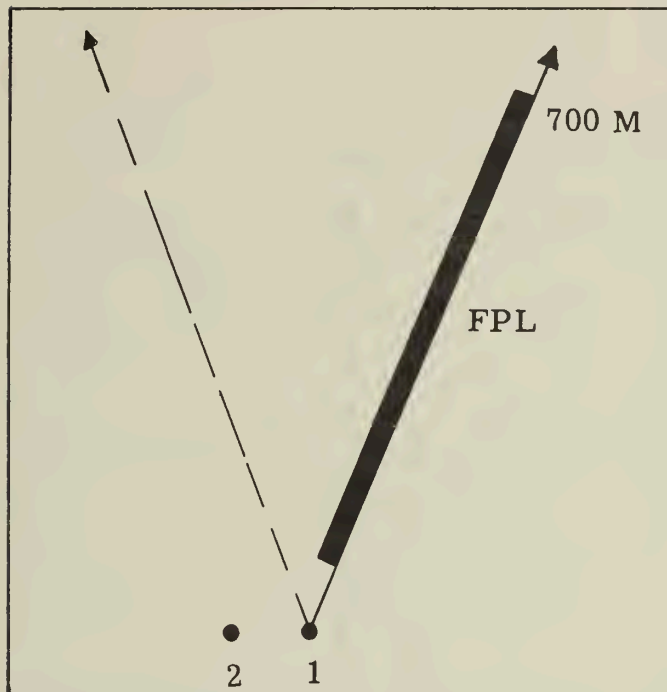

Figure 124. --Final Protective Line.
(2) Final Protective Lines. --A final protective line is a predetermined line of grazing machinegun fire designed to break up an enemy assault. The fire placed along a final protective line is fixed in direction and elevation and can be delivered in any condition of visibility. When fixed fire is incapable of producing maximum grazing fire because of irregularities in the terrain, up to four mils of searching fire may be employed. This will not cover dead space, but it will extend grazing fire along the final protective line. In lieu of specific instructions in Standing Operating Procedures, final protective lines are fired at the rapid rate for the first two minutes and at the sustained rate until CEASE FIRE is given. Except when other targets are being engaged, machineguns habitually will be laid on their final protective lines. Ideally, machinegun final protective lines will produce flanking enfilade fire on an enemy frontal assault. This is accomplished by assigning the inner limit of the sector of fire as the final protective line. The final protective line must be forward of the forward edge of the battle area, and should parallel it as closely as possible. The machinegun final protective lines form the basis for the defensive fires of the unit. When the machineguns are employed by squads, both machinegun teams are assigned the same final protective line. (See figs. 124 and 125.)
(3) Principal Directions of Fire. --A principal direction of fire is a predetermined line of machinegun fire covering the most dangerous avenue of approach. It may be assigned when the situation does not permit the use of a final protective line. The fire along principal directions of fire is not fixed. The gunner may employ traversing and searching fire to cover all targets in the vicinity of the principal direction of fire. The principal direction of fire is normally in the center of the sector of fire so that the gunner can completely cover the avenue of approach. The guns are habitually laid on the principal direction of fire except when other targets